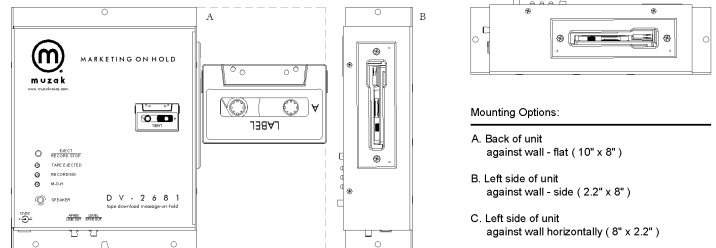

Figure 1
1. Locate a proper space on the telephone equipment board or wall (see Figure 1). You can mount the DV-2681 unit in one of three positions: flat, side, or horizontal. See illustration below.